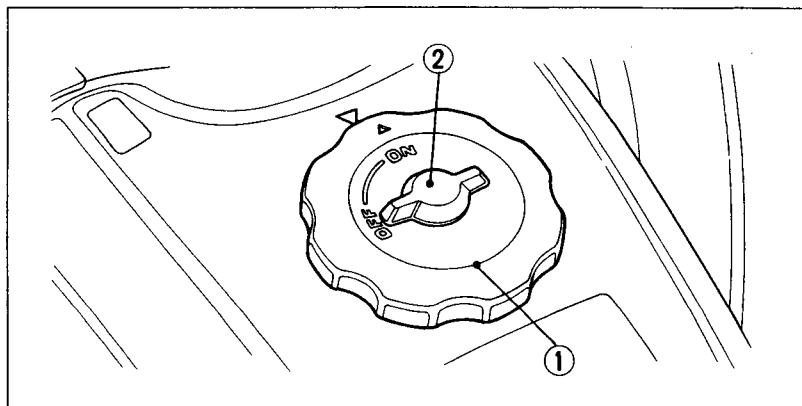

Fig. 2-17 (1) Fuel fill cap (2) Fuel cap vent lever
The fuel fill cap (Fig. 2-17) has a fuel cap vent lever (2) with ON and OFF positions. The lever should be turned to ON to allow fuel to flow when running the engine. Turn the vent lever to OFF to prevent fuel from flowing out the vent hole when transporting the FOURTRAX.